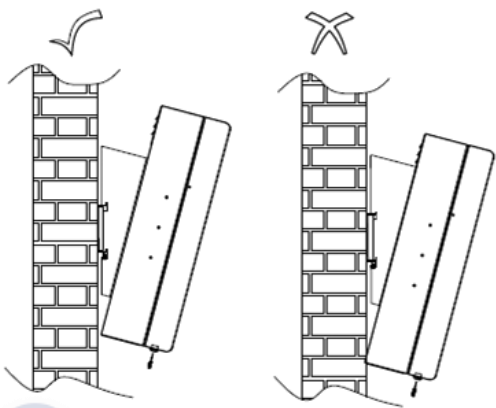

Figure16
STEP 24: After making sure the enclosure brackets and wall plate are securely tightened, steadily lift the enclosure onto the wall plate and fit ensuring the brackets are slotted over the wall plates top lip and the enclosure doesn't touch the wall (Figure16) – If necessary, reposition the bracket arms to accommodate more room.